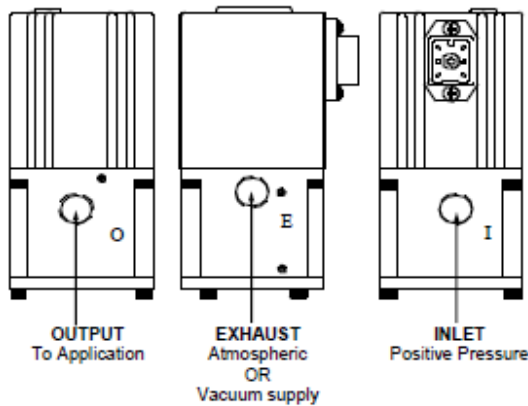

FIGURE 1
3. Connect supply pressure to the I port (Figure 1) not to exceed rated supply pressure. (See TABLE 1)
4. Connect the O port (Figure 1) to the device being controlled.